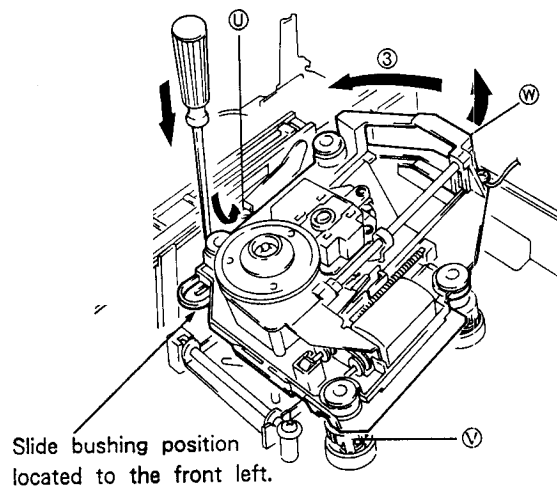

Fig. 3.
4. Push the slide bushing located to the front left using a slotted screwdriver or the like. (See Fig. 3.)
5. Lift the rear section marked ① of the servo mechanism assembly. (Fig. 3)
6. Turn the servo mechanism assembly counter-clockwise (in the direction of arrow ③) with point ④ of the slide bushing as a fulcrum to unlock the hooked section marked ① of the servo mechanism assembly.